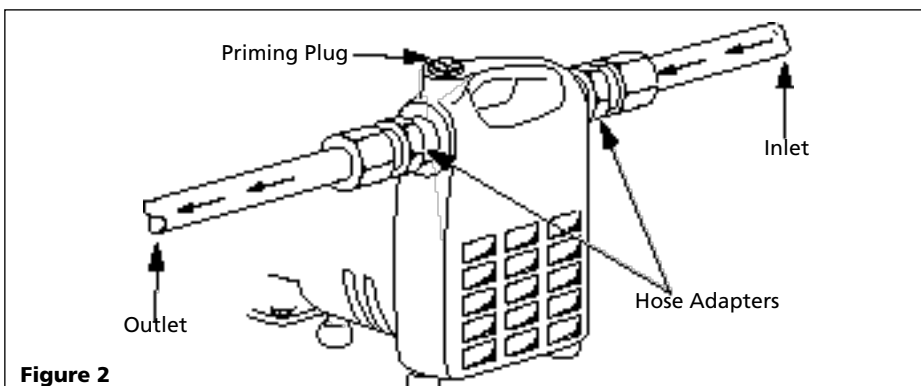

Figure 2
- Figure 2 shows a typical installation. Threaded adapters are furnished for attaching garden hose where conditions permit its use. In no case should the pump be more than 15 feet above or away from inlet source. Install a foot valve and when suction lift is over 10 feet or when suction line is over 10 feet.